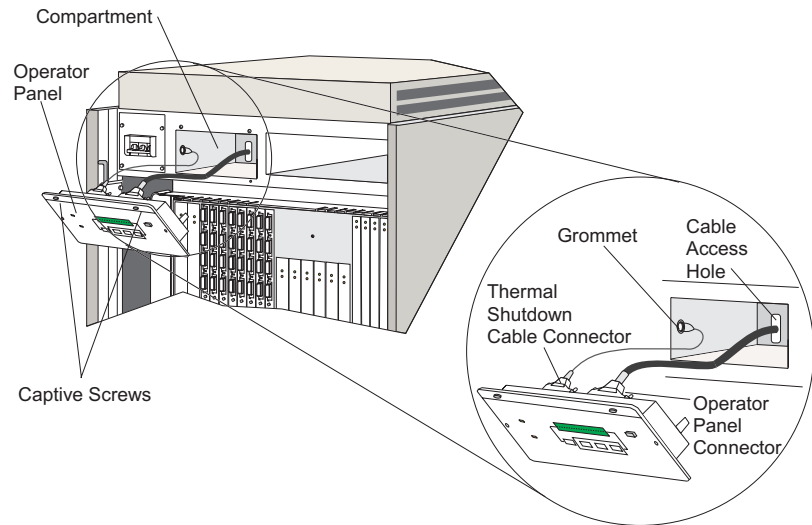

Figure 3-31. Front (Operator) Panel.
Use the following procedure to remove the front panel. Refer to Figure 3-31 on page 3-65.
7. Remove the front panel (Figure 3-31):
Use the following procedure to replace the front panel. Refer to Figure 3-31.